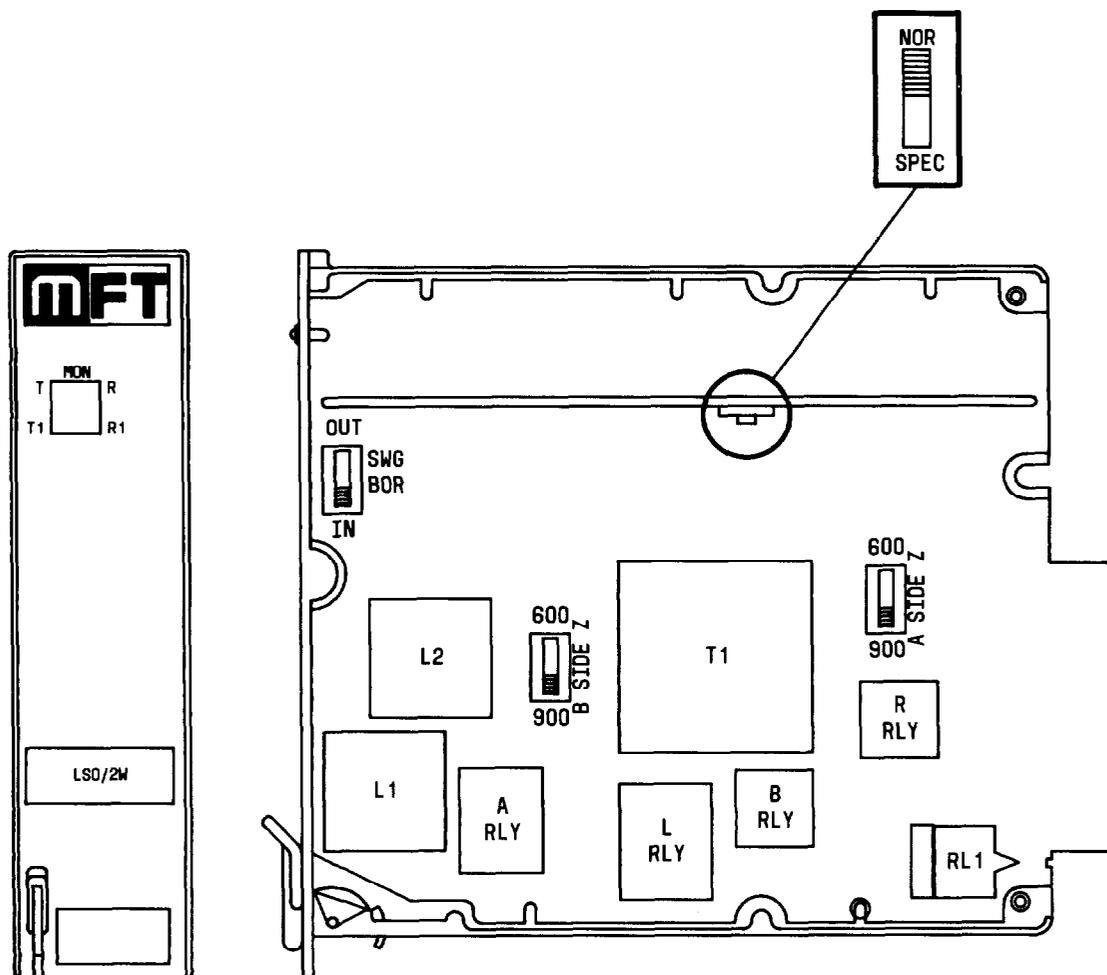
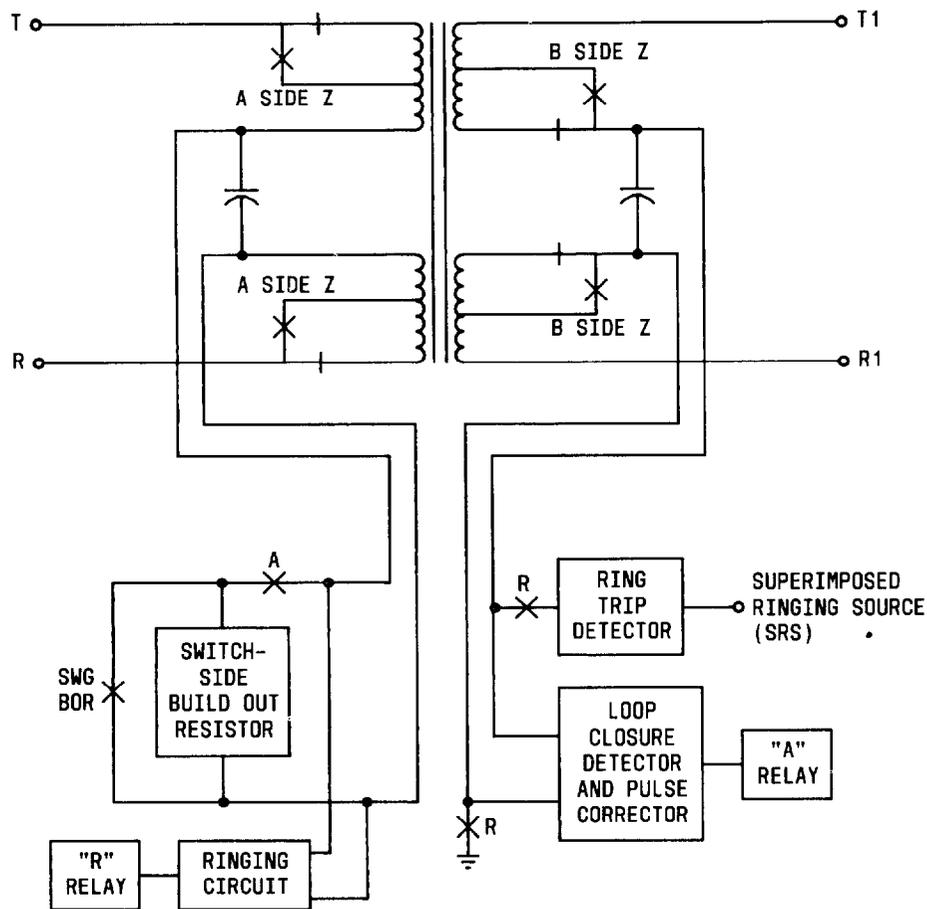

Fig. 1—Look-Start Only/2-Wire Transmission Unit J99343GA,L1
Fig. 2—Block Diagram of J99343GA, L1
2.01 The J99343GA,L1 is shown in Fig. 1. This unit provides between 2-wire circuits transmission coupling. Figure 2 is a block diagram of this unit.
2.09 The unit controls are illustrated in Fig. 1.